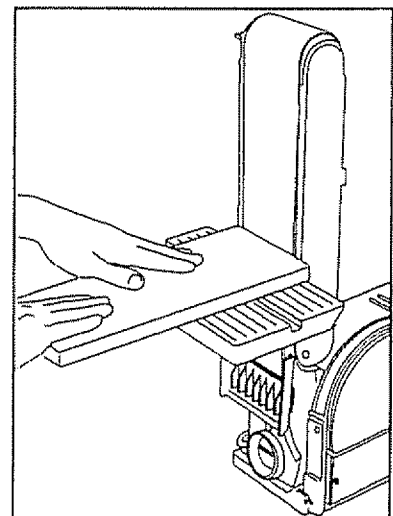

Fig. 19
■ End sanding on the belt (see figure 19)